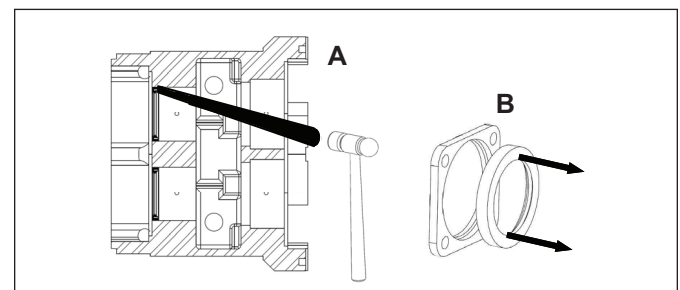

Figure 43. Removing Oil Seals
5. Remove all the shaft shims from the gear case and label which shaft and bore they came from. If the shafts are to be reused, they will need to be reinstalled with the original shims. Failure to do so could result in damage and misalignment in the pump body. Remove and discard the rear oil seals from the back of the gear case. Use a long, non-metallic rod and a soft mallet to punch the seal out from the front side (Figure 43, A). Remove and discard the front bearing seals from the bearing retainers by pressing them out (Figure 43, B). Clean the bearing retainers as they will be reused. Clean excess grease and sludge inside of the gear case before reassembling.